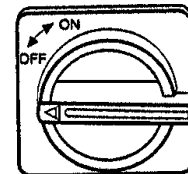

FIGURE 3
The On/Off switch (Disconnect) is mounted on the unit under the top panel and behind the condenser coil. **Reference Figure 1 and Figure 3.**
1. Ensure On/Off switch (Disconnect) is turned to "Off" position. The On/Off (Disconnect) switch is "Off" when turned counter-clockwise. **Reference Figure 3.**
7. Turn On/Off switch (Disconnect) to "On" position. Turn On/Off switch (Disconnect) to "On" position by turning clockwise. **See Figure 3.**
1. Turn Disconnect to "Off" position. The On/Off (Disconnect) switch is "Off" when turned counter-clockwise. **Reference Figure 3.**